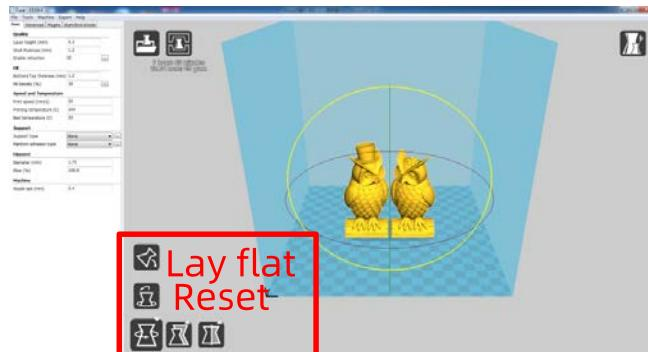

Figure 21
- (1) Zoom in/out: scroll the mouse wheel
- (2) Change viewing angle: right click the model, hold on and move the mouse
- (3) Position change: left click on the model, hold on and drag the model to move.
- (4) Rotate: single left click on the model and several icons will appear at the bottom left of the window (Fig. 21). Click the rotate button, 3 circles will surround the model. Rotate the model by moving the circle lines.
> Lay flat: it is very important to ensure the flat portion of the model is well attached to the platform. So, please use Lay Flat option everytime after rotating the model, as it will minimize the adhesion issues during printing. (Fig. 21)